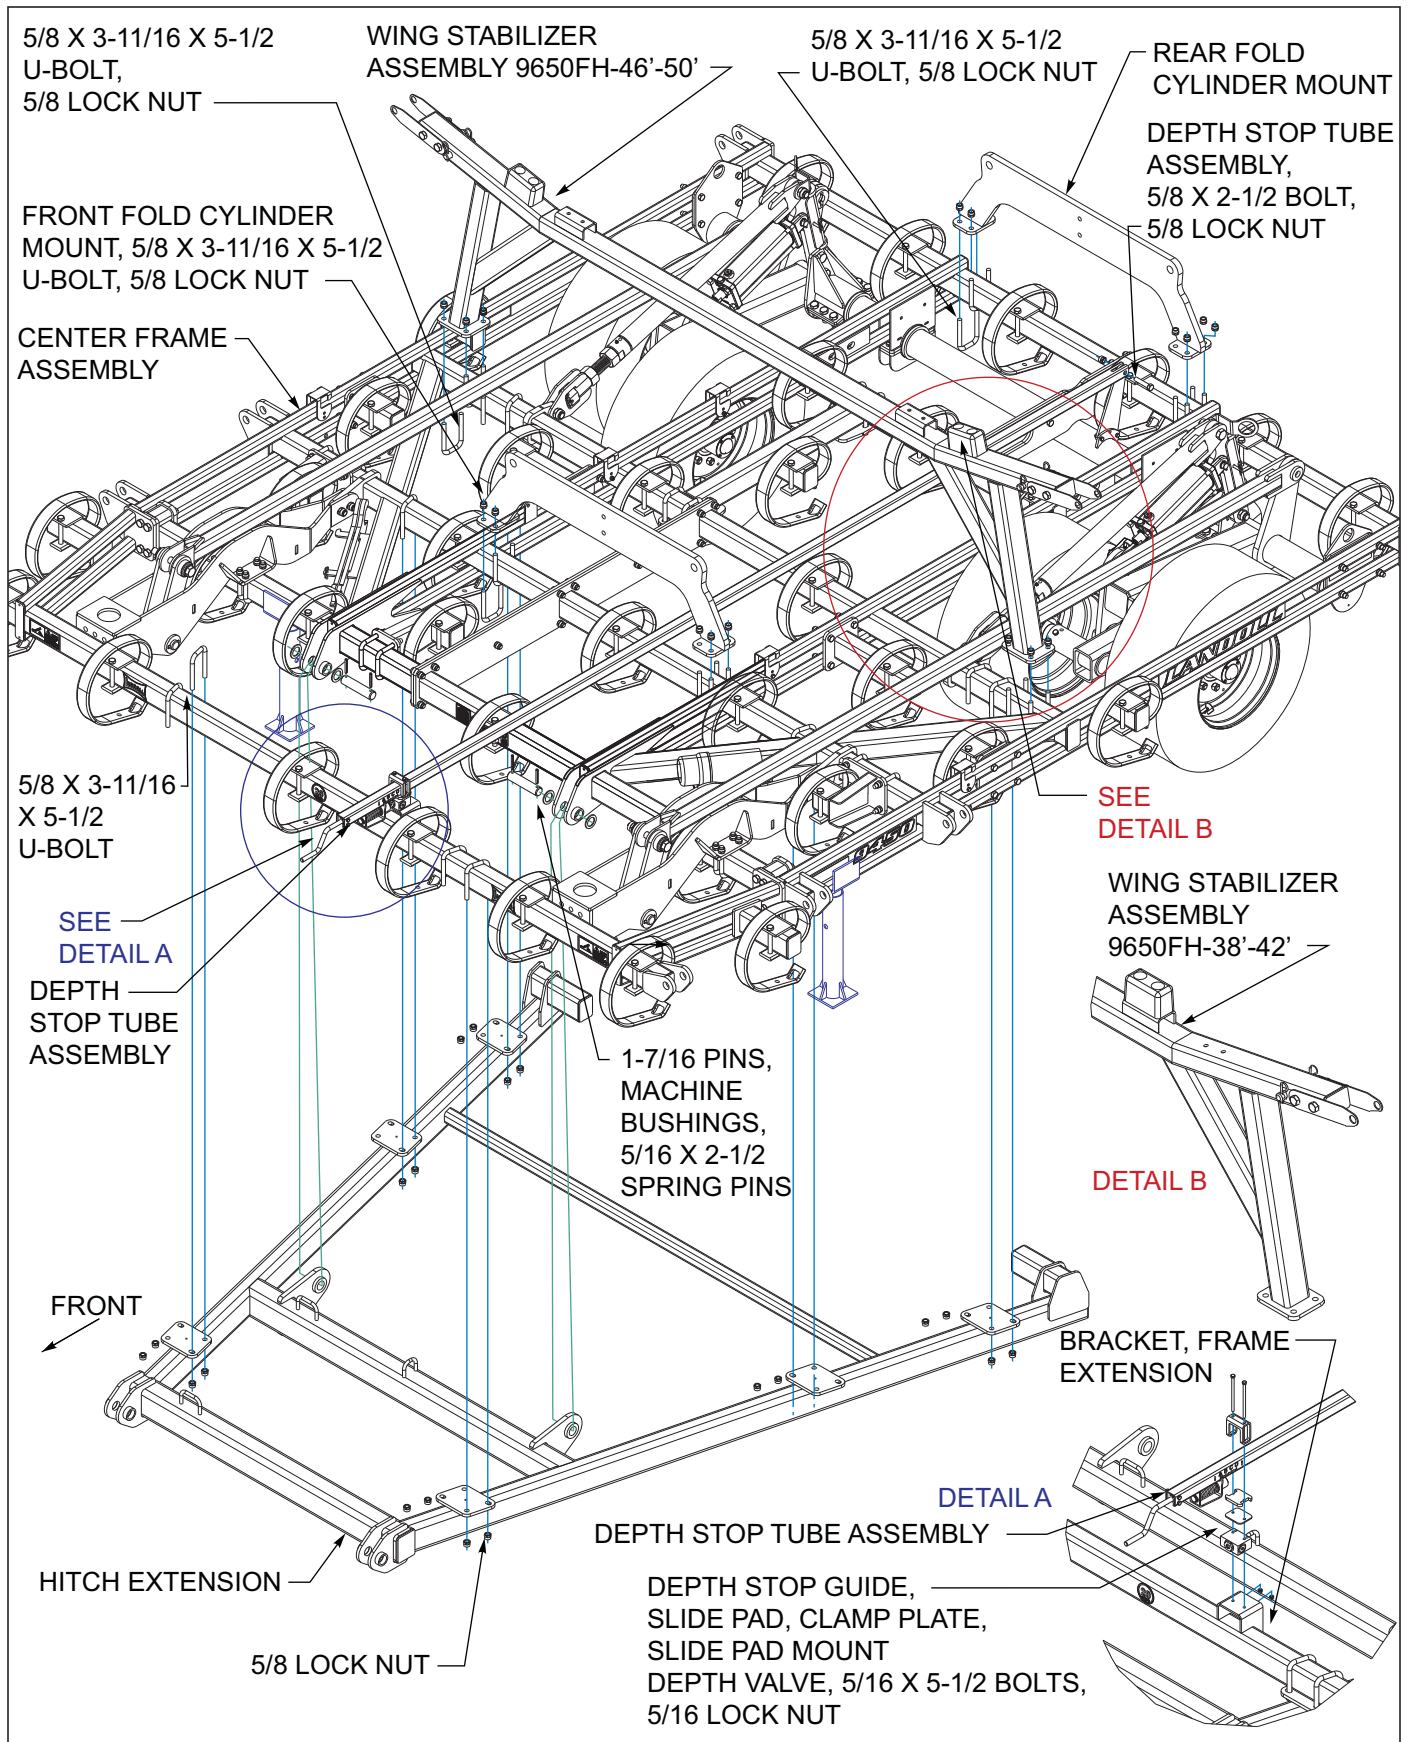

Figure 3-3: Center Frame Fold & Depth Control Assembly
1. Attach the hitch extension to bottom side of frame assemblies with 5/8 x 3-11/16 x 5-1/2 u-bolts and lock nuts *See Figures 3-3*. Attach hitch extension ears to front of center frame with 1-7/16 pins, machine bushings and 5/16 x 2-1/2 spring pins.
4. Align holes of the depth valve with plunger to front of machine to holes of bracket on the frame extension. Use the depth valve mounting holes closet to the plunger when mounting. Insert the slide plate, clamp plate, depth stop tube assembly and slide pad mount in orientation shown *See Figure 3-3*, Detail A, secure with 5/16 x 5-1/2 bolts and 5/16 lock nuts.
Location of rubber mount for models 9450FH-38'-42' and 9450FH-46'-50' *See Figures 3-3*, Detail B.